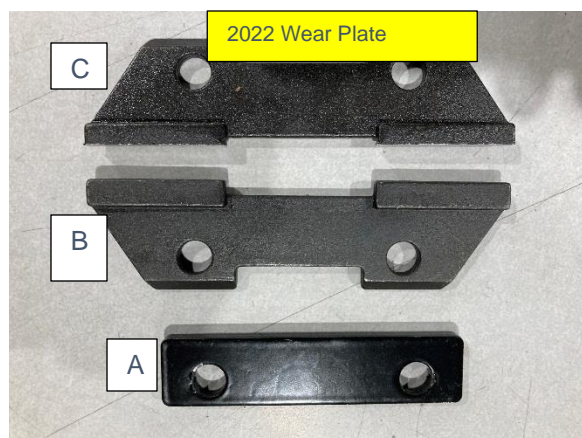
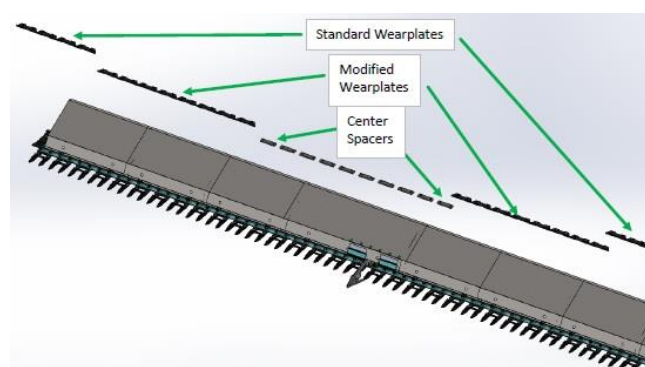

Figure 125
Figure 127
1. Install the guards and wear plates on the cutterbar. Between the cutterbar and the guards, spacers and wear plates are installed. These plates keep the guards at the proper spacing. The wear strips keep the cutterbar pushed forward. Figure 125
4. **On Model Year 2022 and newer** three types of wear plates are used. The standard spacer plate A Figure 125 and a plate with the wear strip, B, Figure 125, and a wear plate that is .100 thinner C. There are a different number of the milled wear strips depending on the size of the header. Figure 127